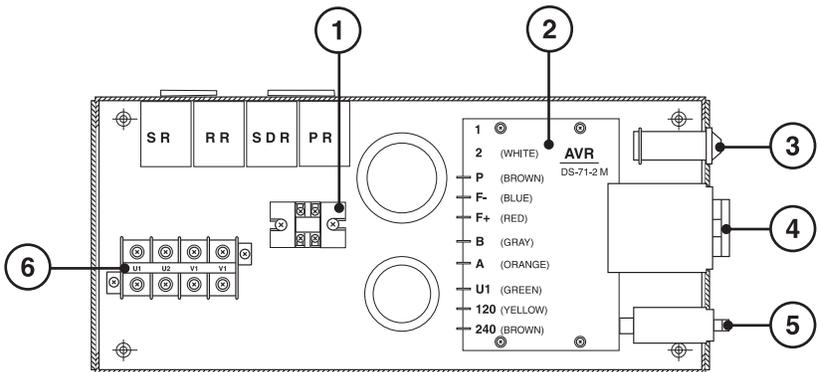

Figure 25: Control Box Components.
3. Generator excitation is provided by activation of the pre-heat circuit and electrical output voltage is controlled by the automatic voltage regulator (AVR) located in the control box (Figure 25, Item 2).
CONTROL BOX (Figure 25)